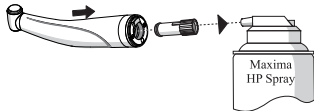

Fig. 5
Handpiece Maintenance (Fig. 5)
4. Insert spray adapter completely into back of handpiece and hold it in place (Fig. 5).